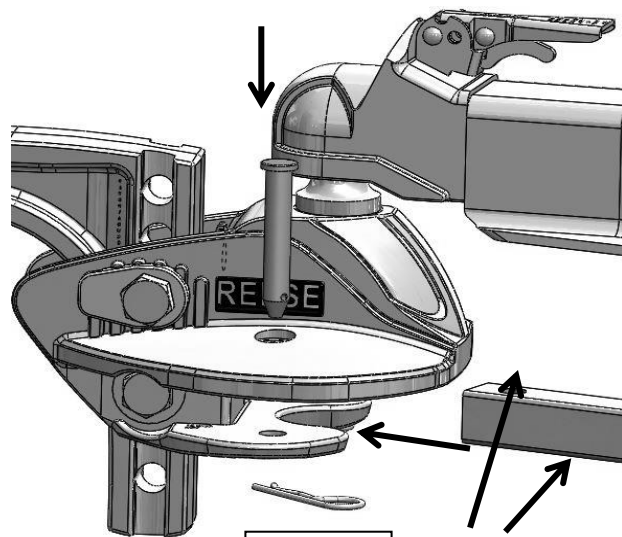

Fig. 11
24. Insert spring bar (**label/taper up, flat side down**) into ball mount and secure with clevis pin and spring clip (see Fig. 11).